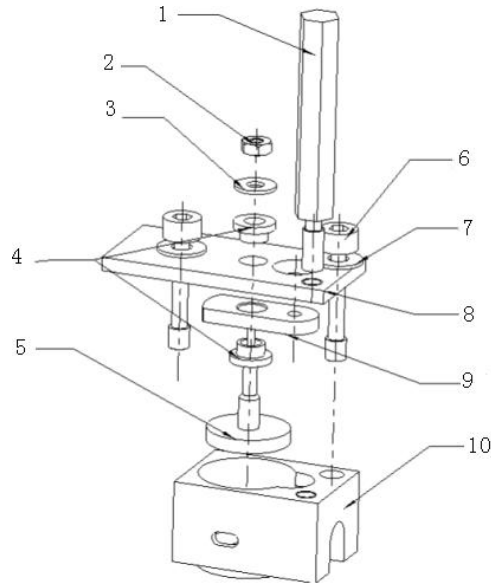

Figure 2-11 Ion source box and repulsion electrode
- (1) Install the parts in an upward order, as shown in Figure 2-11.
- (2) Put the repulsion electrode into the ion source electrode box and adjust it to situate the repulsion electrode in the center of the electrode box.
- (3) Fasten the ion source holder to the electrode box prior to assembly the electrode box to the target position by holding the ion source holder.
- (4) Tighten the two screws of electrode box, first the left one, remove the ion source holder, and then the other one to ensure equilibrium force.
- (5) Connect to the repulsion electrode lead terminal.